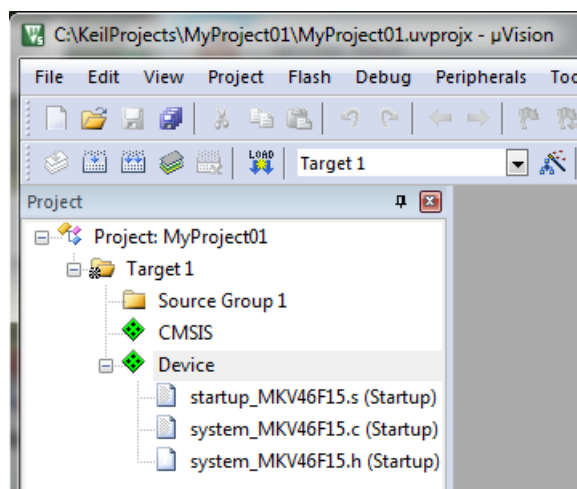

Figure 1-27. Project
10. Click OK, and a new project is created. The new project is now visible in the left-hand part of Keil μ Vision. See Figure 1-27.
13. Select Use Single Precision in the Floating Point Hardware option. See Figure 1-27.